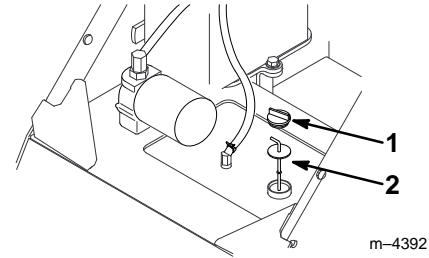

Figure 8
5. Clean the area around the filler neck of the hydraulic tank (Fig. 8).
6. Remove the cap from the filler neck and check the fluid level on the dipstick (Fig. 8).